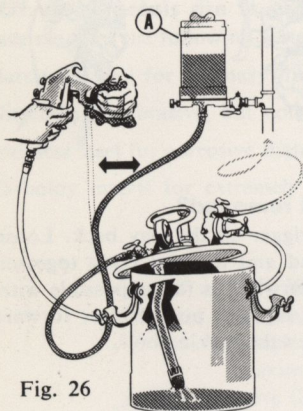

Fig. 26
A pressure feed system is cleaned as follows: To clean a pressure feed system, back up the air pressure regulating adjusting screw on the tank, release pressure from the tank by means of the relief valve or safety valve, loosen the spray gun air cap ring 3 turns, hold a cloth over the air cap and pull the trigger to force material back into the tank (Fig. 26). Then remove fluid hose from the gun and attach it to a hose cleaner (A). Run air and solvent through the hose and the fluid tube on the tank. Dry hose with compressed air. Clean air cap and fluid tip. Clean out tank and reassemble for future use.
A device which forces solvent and air through fluid hose and guns, ridding them of paint residue. A valve stops the flow of solvent and allows air to dry the equipment being cleaned. (See Fig. 26.)